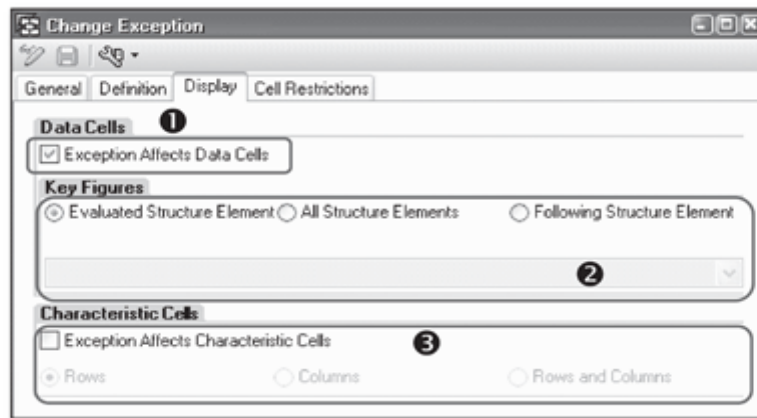

Figure 9.90 Exceptions – Display
7. The Display tab contains the settings where you can define the query elements that should be highlighted for the exception (see Figure 9.90). If you select the setting Exception Affects Data Cells (❶), then you can select which data elements should be highlighted for this exception (❷). Similarly, if you select the setting Exception Affects Characteristic Cells, you can specify if the rows or columns or both rows and columns should be highlighted if an exception occurs (❸).